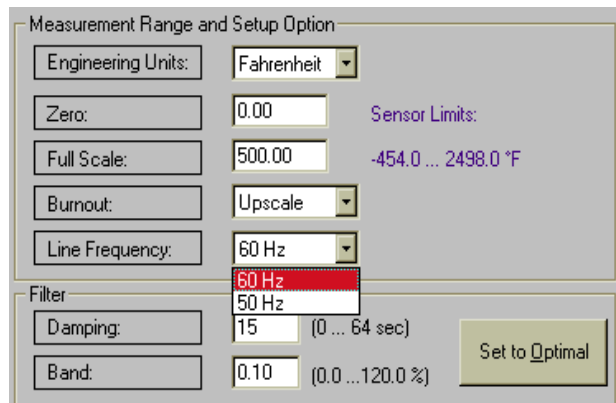

Figure 10.
10. Next TAB to the **“Line Frequency”** and select from the pull-down menu and select 50Hz or 60Hz as appropriate. (See Figure 10)